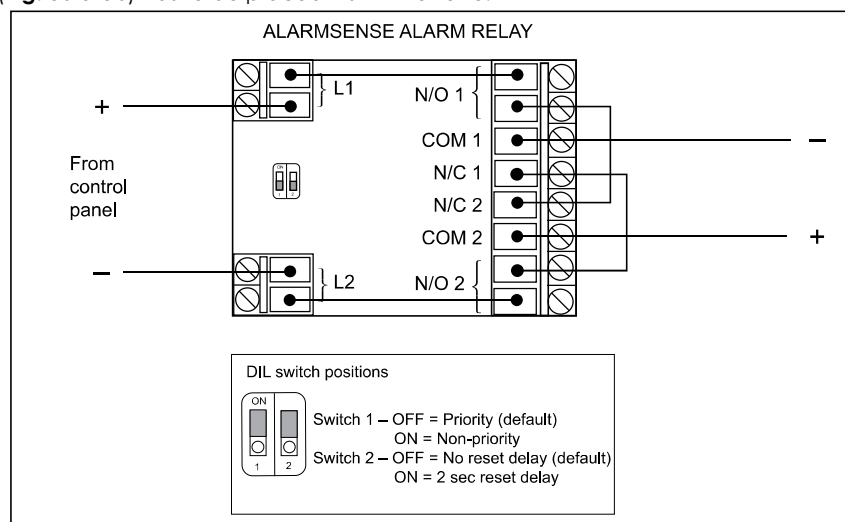

Fig. 3a AlarmSense Alarm Relay wiring - when used for sounders
If connecting conventional sounders and visual indicators to an AlarmSense zone, the alarm relay (Fig. 3a & 3b) has to be placed first in the zone.
7. Connect end-of-line resistor supplied by the panel manufacturer between COM 1 and COM 2 (See Fig. 3a & 3b).